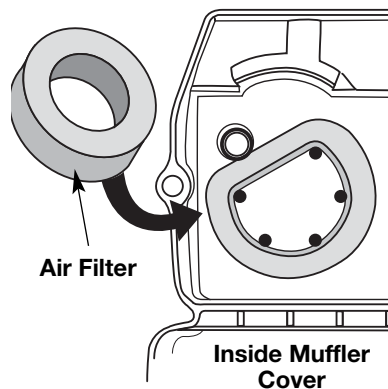

Fig. 18
- Turn cover over and look inside to locate the air filter. Remove the air filter from inside the air filter/muffler cover (Fig. 18).
6. Replace the air filter inside the air filter/muffler cover (Fig. 18).